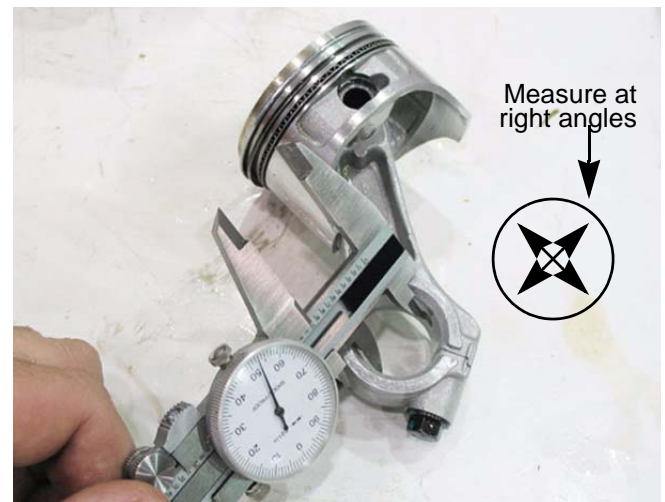

Figure 10.15
3. Measure the inside diameter of the connecting rod and compare the measurements to those listed in the chart at the end of this chapter. See Figure 10.15.